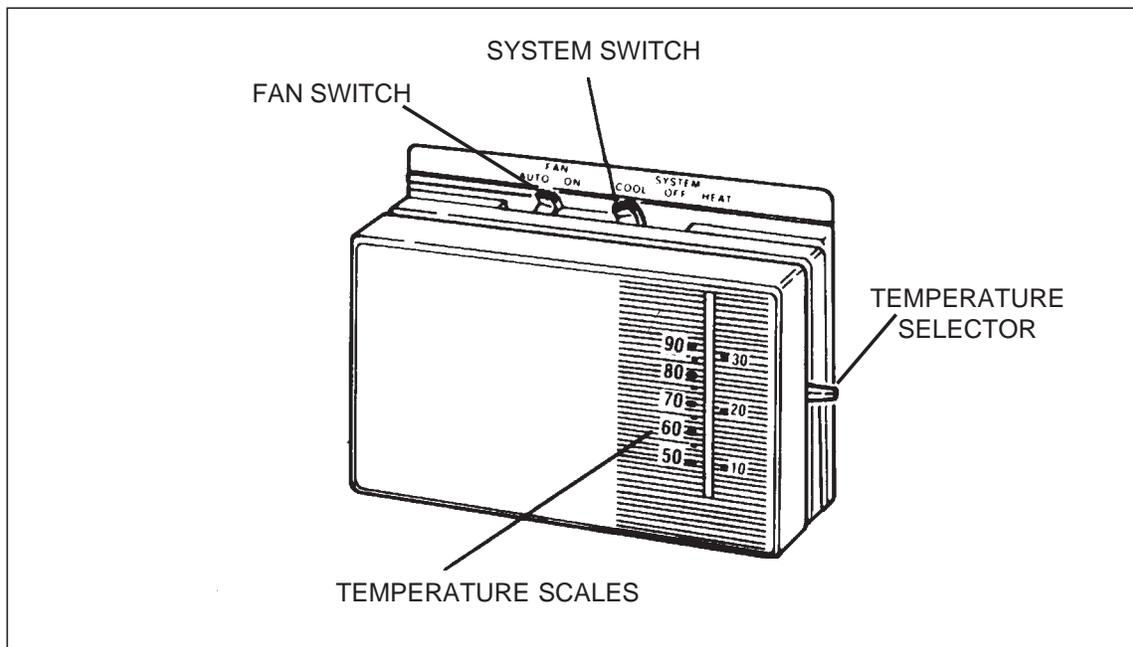

Figure 1. Typical Thermostat
1. Set the thermostat system switch to COOL and the thermostat fan switch to AUTO. (See Figure 1)
1. Set the thermostat system switch to Heat and the thermostat fan switch to AUTO. (See Figure 1)
Set the thermostat system switch to OFF and the thermostat fan switch to AUTO (See Figure 1). The system will not operate, regardless of the thermostat temperature selector(s) setting.
Set the thermostat fan switch to ON (may be called CONT on some thermostat models). (See Figure 1)